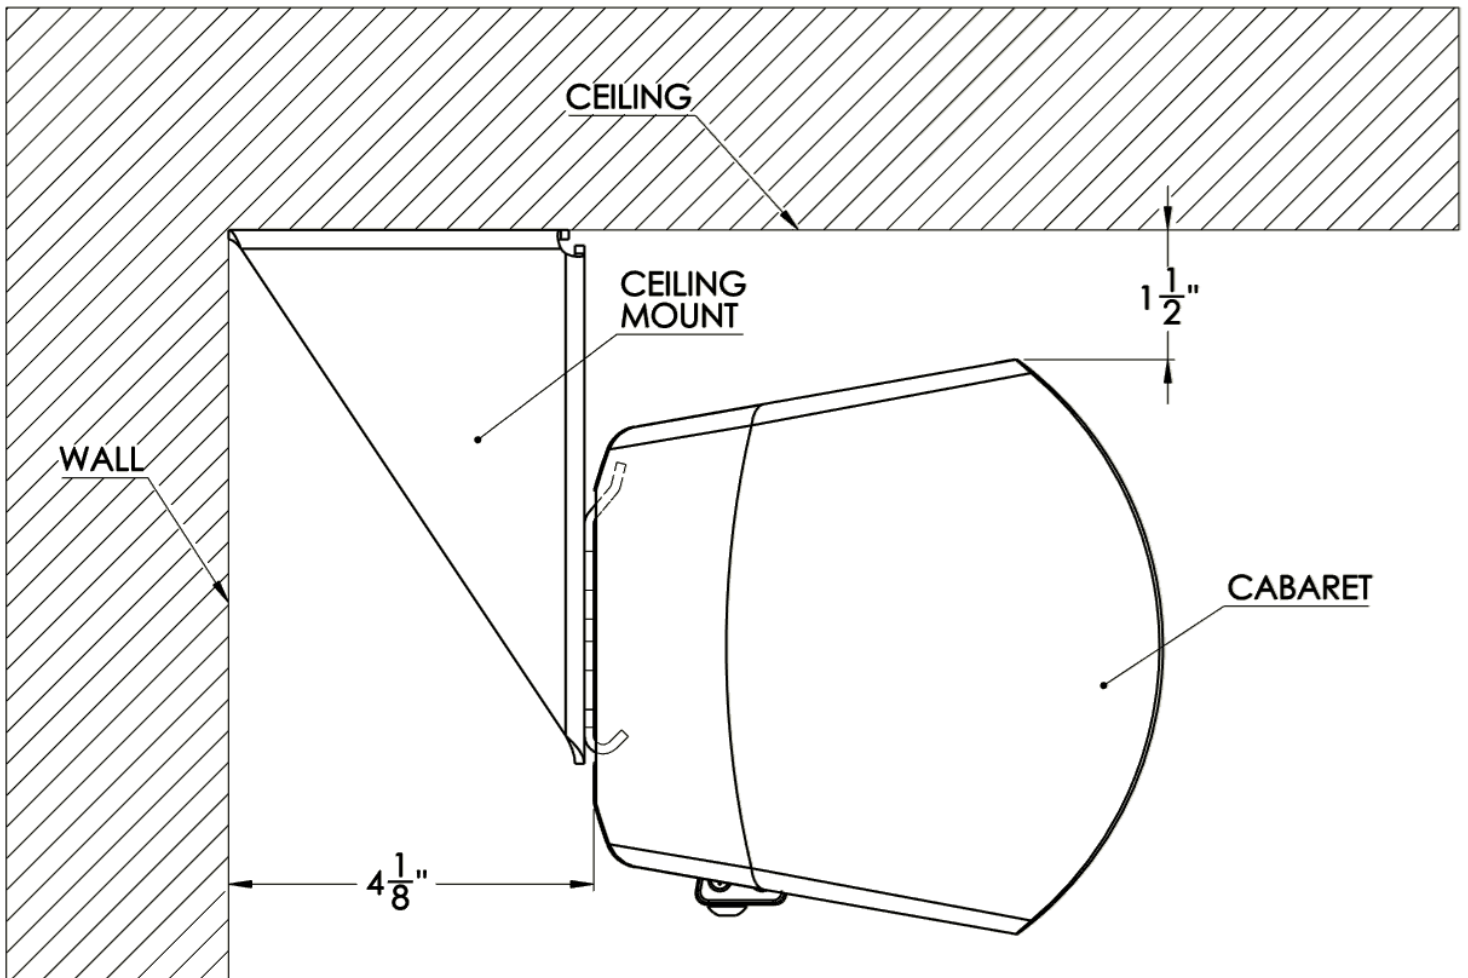

Figure 16: Ceiling mount detail with minimum clearance
6. For the minimum clearance dimensions, (see figure 16).